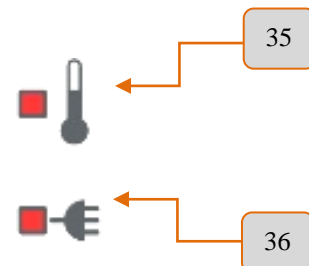

**Fig. 3**
Press the button **(13)** of Fig. 3 and select the LED **I2**.
For execute the regulation push the button **(13)** of Fig. 3 and select the LED on the picture.
For execute the regulation press the button **(13)** of Fig. 3 and select the LED on the picture.
Press the button (13) of Fig. 3 and select the **PREGAS** LED.
Press the button (13) of Fig. 3 and select the **I1** LED (Initial current).